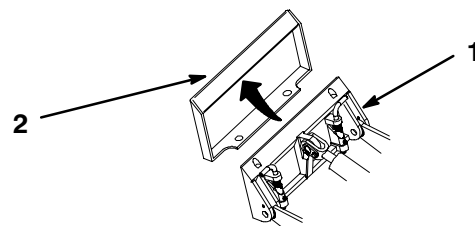

Figure 15
- Position mount plate into the upper lip of the attachment receiver plate (Fig. 15).